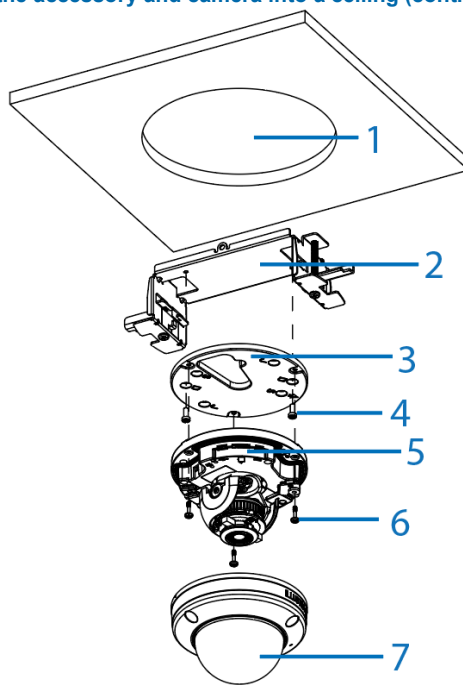

Figure 2
1. Place the mounting template sticker onto the correct position on the ceiling tile and cut out a 6.8-inch (173mm) hole (1) (Figure 2).
2. Insert the adaptor plate (3) (Figure 2) that comes in the box with the camera onto the recessed mount (2) (Figure 2) and align the two 'D' holes on the adaptor plate with the two holes on the recessed mount.
3. Use a screwdriver to insert the two screws (4) (Figure 2) that come in the box with the camera into the two holes on the adaptor plate and securely attach the adaptor plate to the recessed mount.
6. Use a screwdriver to remove the three screws on the dome cover (7) (Figure 2) and then fully remove the dome cover from the camera base (5) (Figure 2).
8. Push the camera base up onto the adaptor plate and align the three screws on the camera base (6) (Figure 2) with the three holes on the adaptor plate.
10. Remove the three rubber plugs that cover the three screws on the camera top cover (7) (Figure 2).
13. Hold the camera dome cover (7) (Figure 2) up to the camera base and align the three screws on the camera dome cover with the three holes on the camera base.